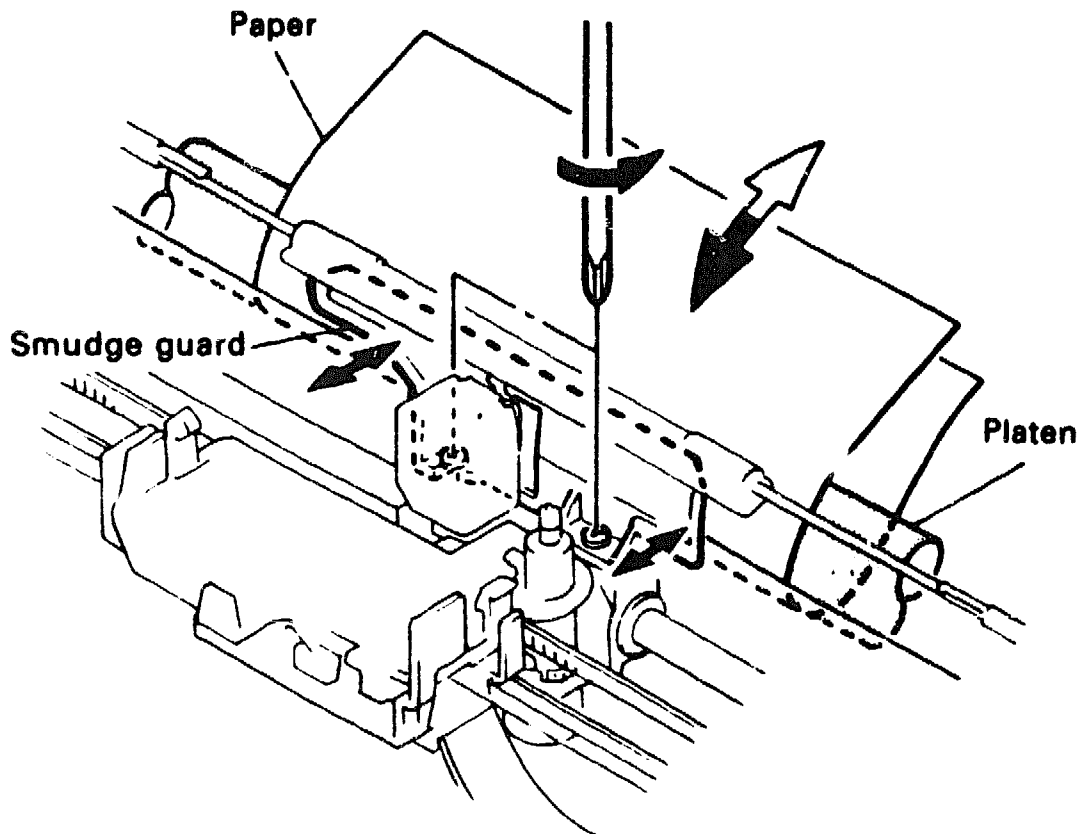

Figure 6-8 Adjusting the Smudge Guard
- a. Loosely tighten the two screws holding the smudge guard (Figure 6-8).
- b. Insert a mylar sheet of 0.125 mm-thick between the platen and smudge guard. Adjust the smudge guard position so that the mylar sheet travel is smooth. Then, firmly tighten the two screws (Figure 6-8).